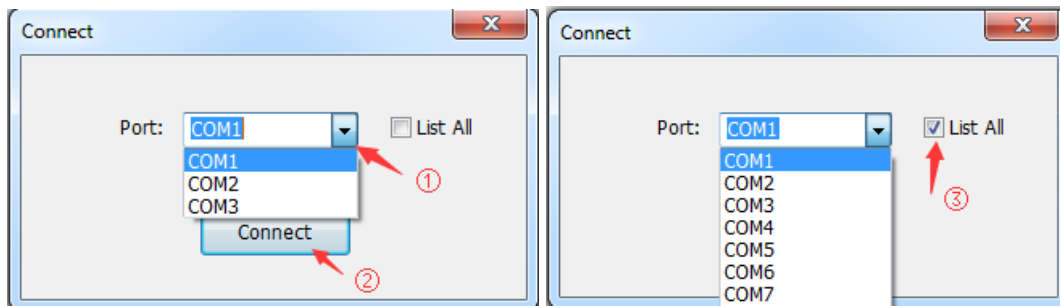

Figure 5: connecting drive
- Select the correct COM port from “Port” dropdown list control (Figure 5). When a USB to RS232 adaptor is used, you can go to Device Manager of your computer to find the correct port.